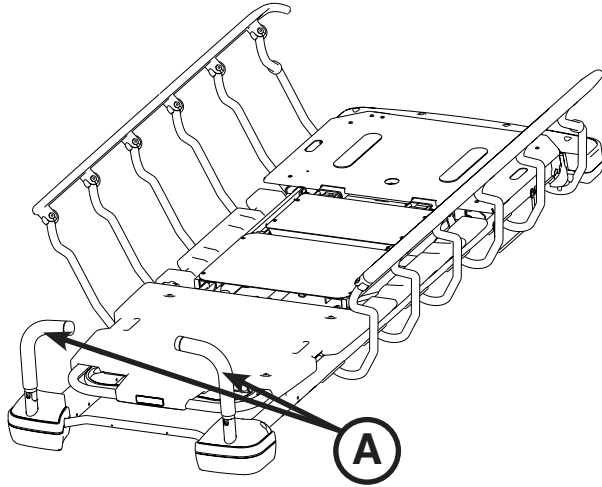

Figure 19: Head End Push Handles Open
To use the push handles, pivot the handles (A) up and push down until they are locked into position (Figure 19).